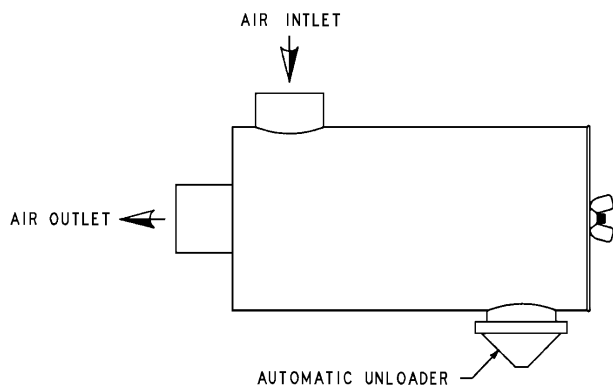

FIGURE 6-1 – HEAVY DUTY AIR FILTER
**HEAVY-DUTY AIR FILTER** (FIGURE 6-1) furnished as standard equipment on units with an enclosure is a heavy-duty washable element dry type air filter. The air filter must receive proper maintenance if maximum service is to be obtained from the unit. Establishing adequate and timely filter service is MOST IMPORTANT. Improperly maintained air filter can cause a loss of compressor air delivery.